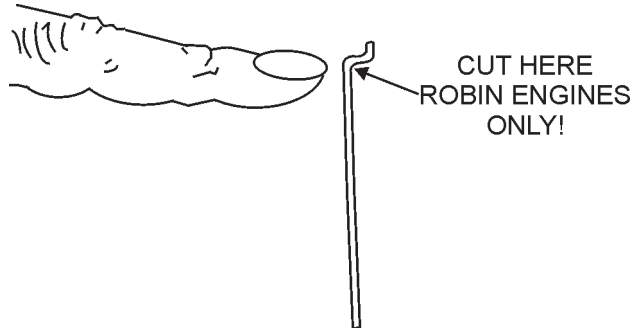

Figure 11. Throttle Wire Hook
2. On **ROBIN** engines, the **hook-on** the engine end of the throttle wire must be removed. Make the cut as shown in Figure 11. The **HONDA** engine will not require this modification to the throttle cable.